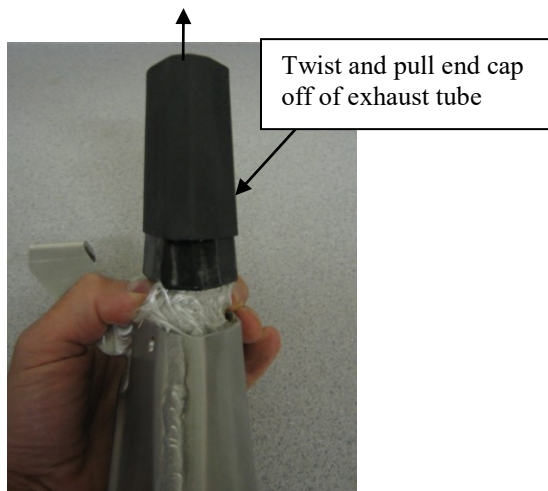

Figure 3 – Pinch location to hold exhaust tube while pulling off end cap.
- 4) Once separated grasp/pinch the center of the silencer packing and exhaust tube (as shown in Figure 3) with one hand, and with the other gently twist the end cap back and forth while pulling away from the silencer body, the goal is to not pull the exhaust tube out of the silencer body and to remove the end cap. Continue to pull/twist on the end cap until it is free from the exhaust tube.